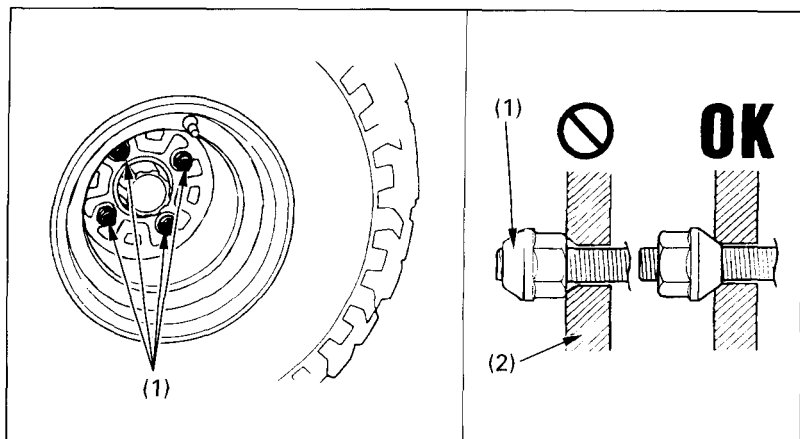

Fig. 4-31 (1) Wheel nuts
2. Loosen the wheel nuts (Fig. 4-31) with a 17 mm socket wrench.